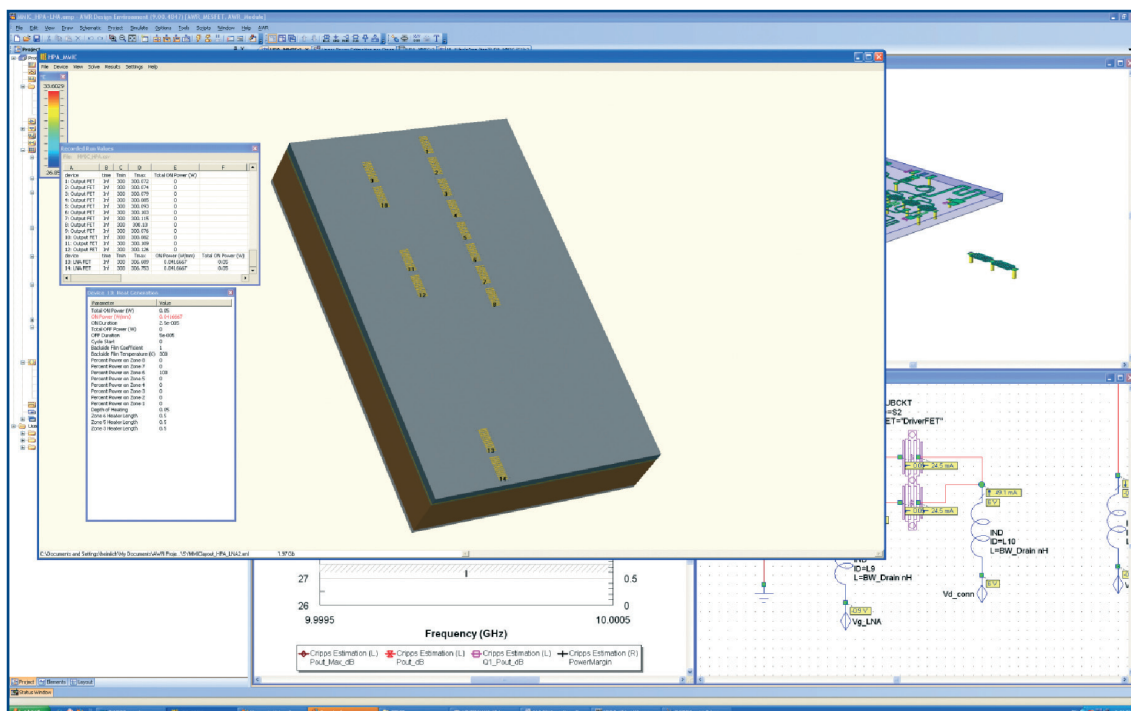

Figure 8. SYMMIC with imported xml file and dialog for updating/verifying dissipated power for each FET.
3. Input the device dissipated power for each device by going to the Device pull-down menu, and using the Device selection command to select a device. Then, open up the heat generation dialog (from the same pull-down menu), and update the power based on the TOT_PWRA annotation from Microwave Office (figure 8) by selecting the first row Total ON Power and right-mouse clicking Edit. Change the selected device and repeat/validate that all your devices have the proper power.